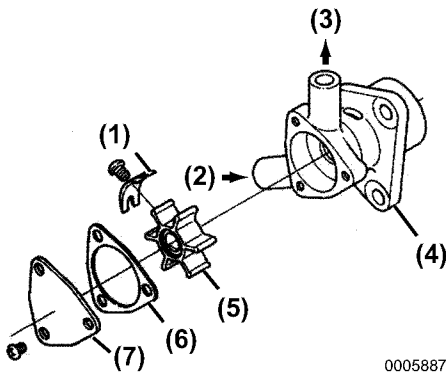

Figure 5
The seawater pump impeller will wear and deteriorate with prolonged use. This will reduce its capacity to move cooling water through the engine. Inspect the seawater pump impeller at its scheduled maintenance interval or sooner if the discharge volume of seawater is diminished. Refer to **Figure 5** when performing this inspection.
1. Loosen the cover bolts and remove the pump side cover (**Figure 5, (7)**).
- Inspect the impeller blades (**Figure 5, (5)**). Look for nicks, cracks and any evidence of damage. This includes excessive scratches and marring of the surface of the impeller blades.
- Inspect the condition of the pump body (**Figure 5, (4)**). Look for corrosion and evidence of structural damage to any surface that is in contact with the impeller blades. Make sure the walls of the pump chamber are smooth and free of gouges and corrosive pitting.